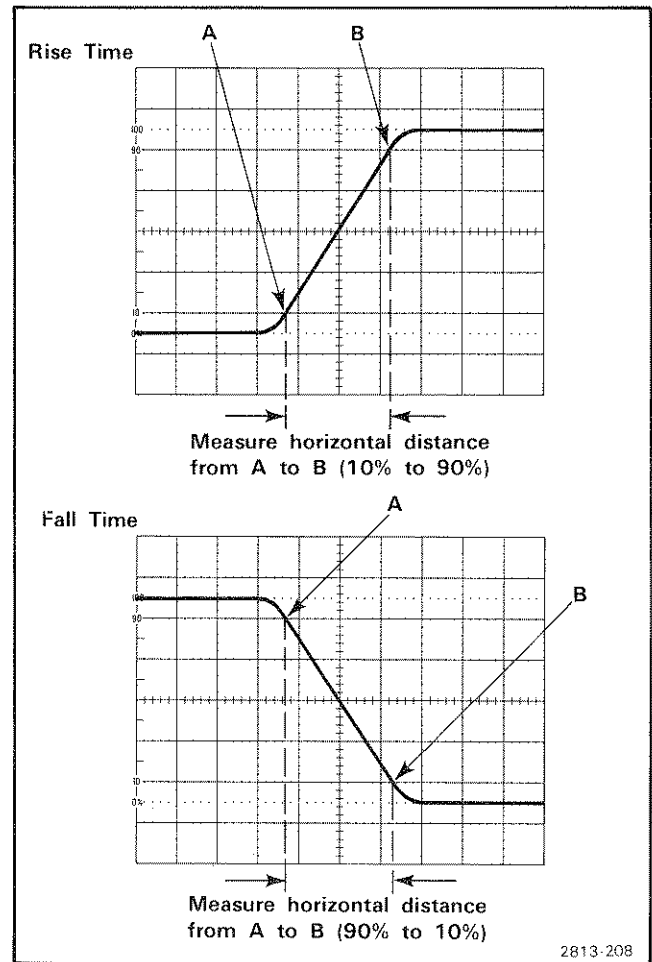

Figure 2-8. Measuring the rise time and fall time of a pulse.
6. Set the TIME/DIV and POSITION controls to display the rising or falling portion of the waveform within the center eight graticule divisions as shown in Figure 2-8 (see General Operating Information in this manual for discussion of timing measurement accuracy).
7. Determine rise time or fall time by measuring the horizontal distance in divisions between the point on the rising or falling portion of the waveform that is 10% and the point that is 90% of the total display amplitude (see Fig. 2-8).
EXAMPLE: Assume that the horizontal distance between the 10% and 90% amplitude points is 2.5 divisions, and the TIME/DIV setting is 0.1  $\mu$ s (see Fig. 2-8).